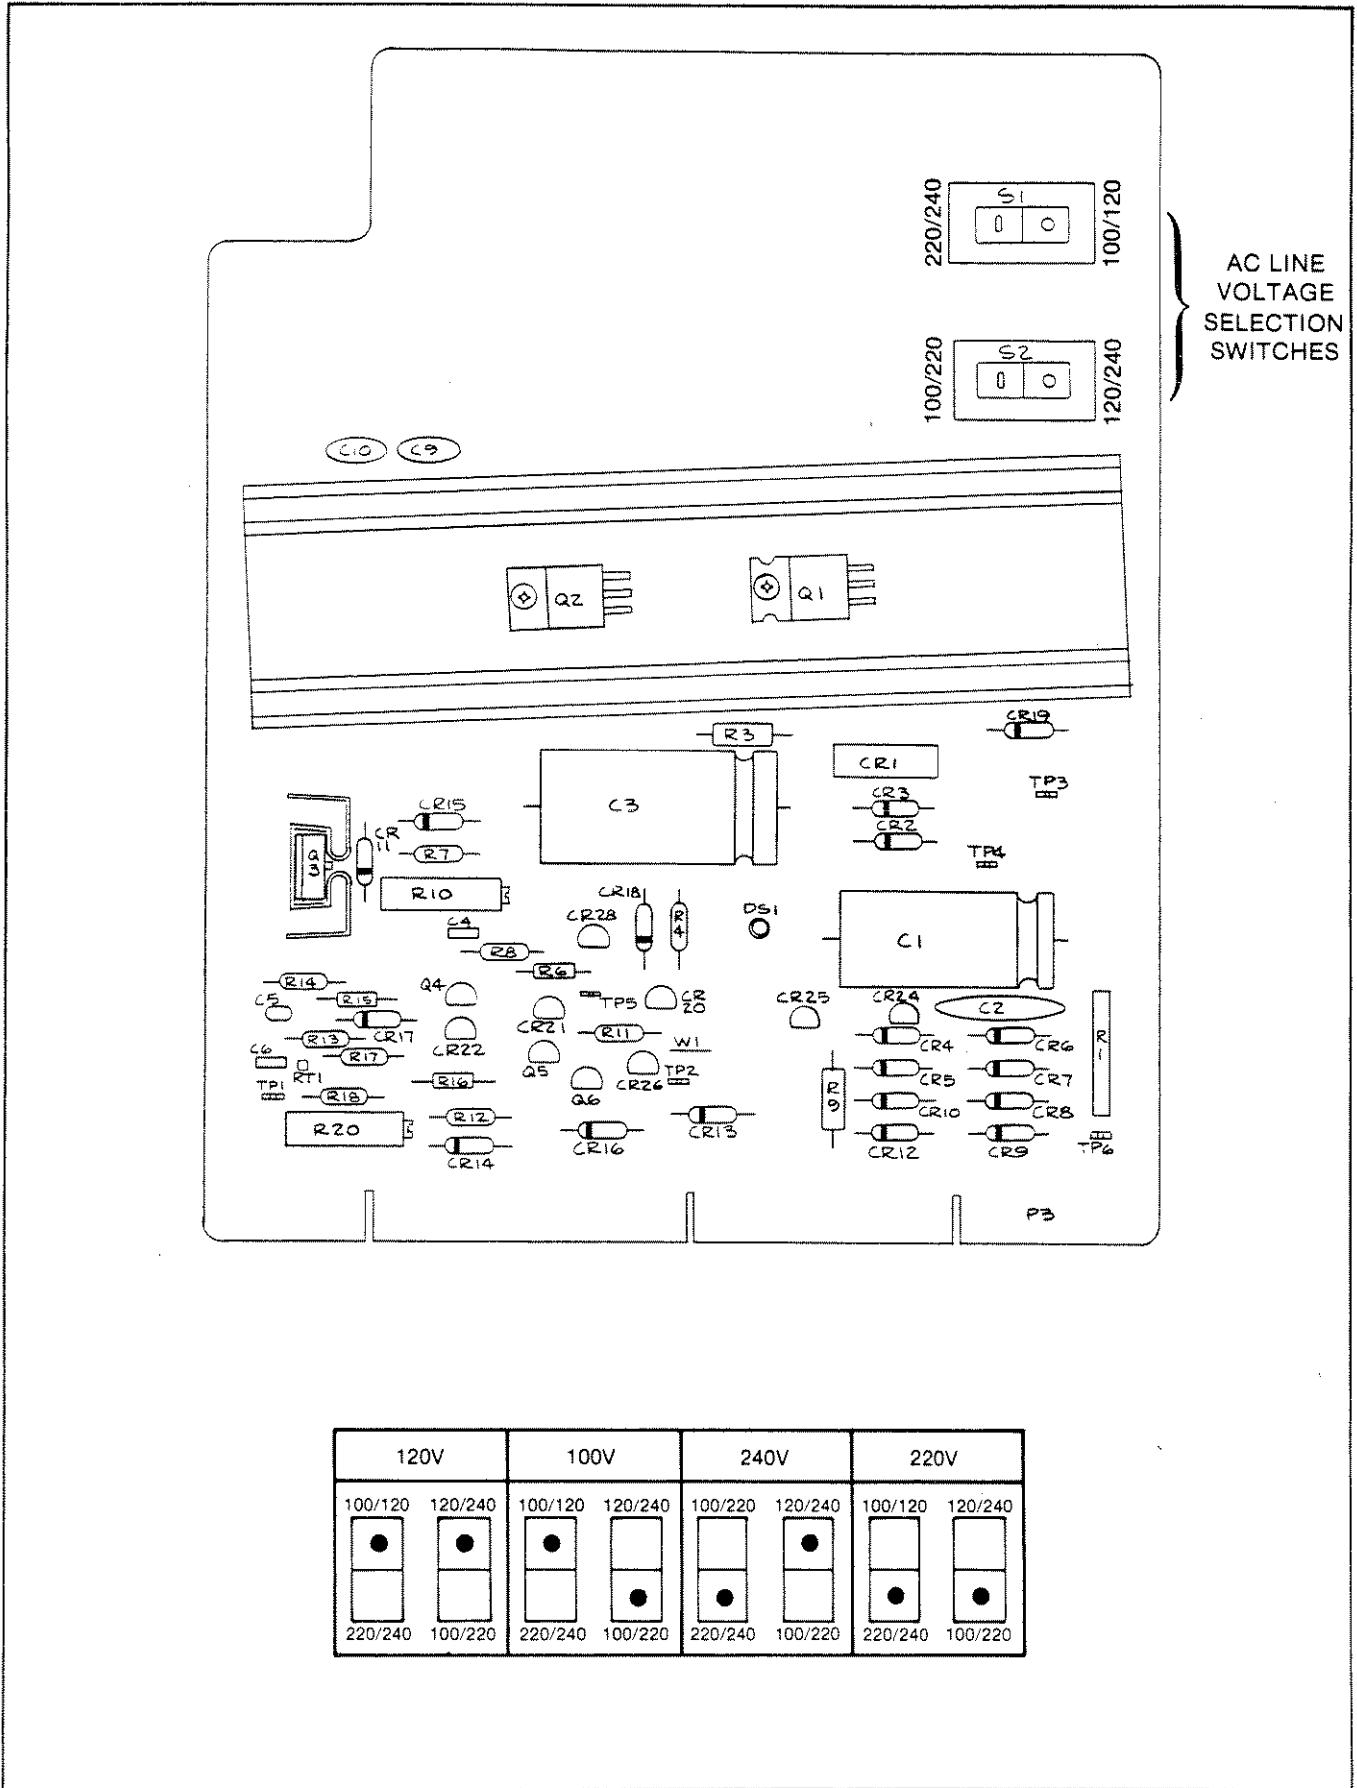

Figure 4-5. AC Line Voltage Conversion on A3 Pre-Regulator PCB Assembly
4-29. The 732A may be operated from 100V, 120V, 220V, or 240V ac $\pm 10\%$. The assigned line voltage may be changed to match the available source using the following procedure. Refer to Figure 4-5.
4. Locate the voltage selector switches (slide switches, top of PCB, near rear panel). Set the switches so that the dots on the switch actuators select the correct line voltage. As shown in Figure 4-5.